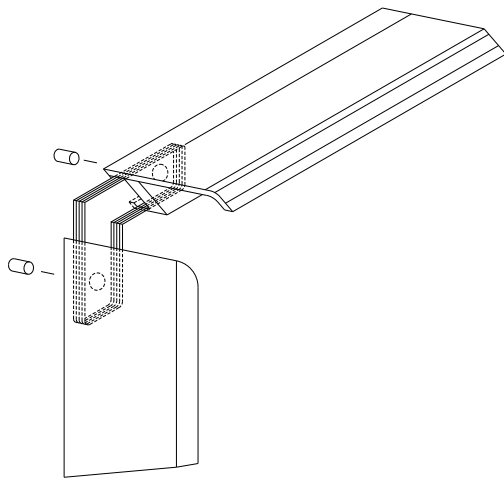

Figure 2.9a
2. Assemble the faceplate trim, attaching the mitered corners with the corner brackets. (see Figure 2.9a)